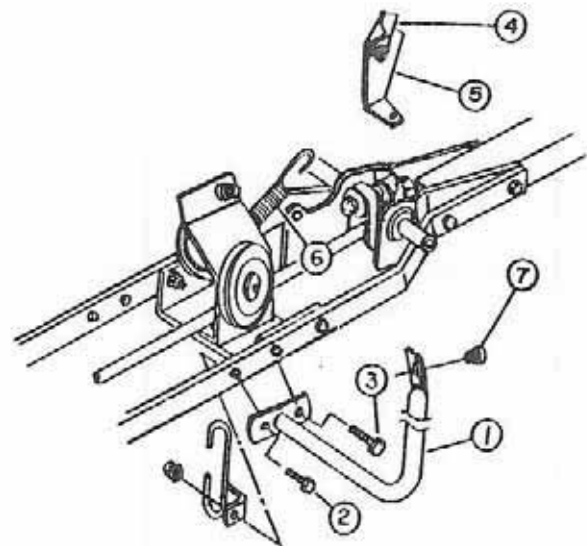

FIGURE 7
- g) Tractor with manual PTO clutch: Install the clutch extension bracket (fig. 7, item 5) on the tractor clutch lever (item 4), using a 3/8 X 3/4" bolt and nut (placing bent portion of bracket against front side of tractor clutch lever). Tighten securely and attach free end of spring (item 6) to extension bracket.